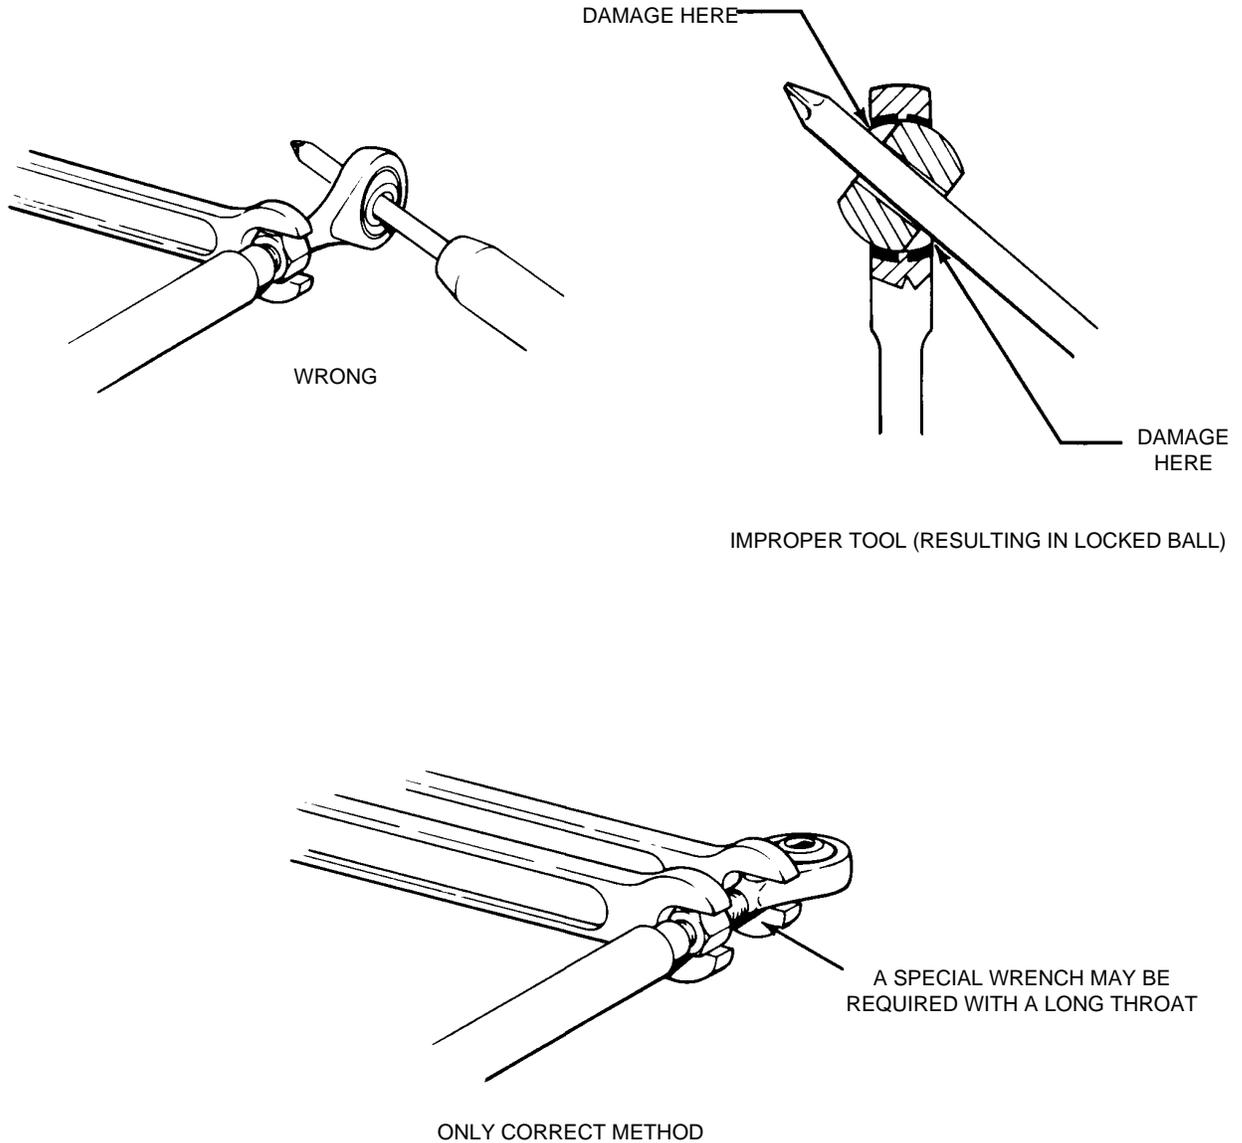

Figure 5-2. Correct Method of Installing Rod End Bearings
5-8. REMOVAL OF AILERON CONTROL CABLES. (Refer to Figures 5-2 and 5-3.)
1. Separate the balance cable at the turnbuckle (24) in the right side of the opening aft of the main spar.
2. If the left balance cable is to be removed, remove the cotter pin used as a cable guard at the pulley (11) in the center of the opening.
3. Remove the access plate to the aileron bellcrank (6) located on the underside of the wing forward of the inboard end of the aileron.
**5-9. INSTALLATION OF AILERON CONTROL CABLES.** (Refer to Figures 5-2 and 5-3.)
2. Connect the cable to the end of the control chain (4) and secure using bushing, bolt, nut and cotter pin (23).
2. Connect the cable, along with the aileron centering plate, to the aft end of the aileron bellcrank (6) using a bolt, washer, nut and cotter pin. Allow the cable end to rotate freely on the bellcrank.
3. Connect the balance cable ends at the turnbuckle (24) that is located aft of the main spar.
4. If the left cable was removed, install the cotter pin cable guard at the pulley (10) located within the fuselage, aft of the main spar.
**5-10. REMOVAL OF AILERON BELLCRANK ASSEMBLY.** (Refer to Figures 5-2 and 5-3.)
- a. Remove the access plate to the aileron bellcrank (6) located on the underside of the wing, forward of the center aileron hinge.
- b. Relieve tension from the aileron control cables by loosening the balance cable turnbuckle (24) located in the opening aft of the main spar.
- f. Disconnect the aileron control rod (7) at the aft or forward end, as desired, by removing the cotter pin, nut, washer and bolt.